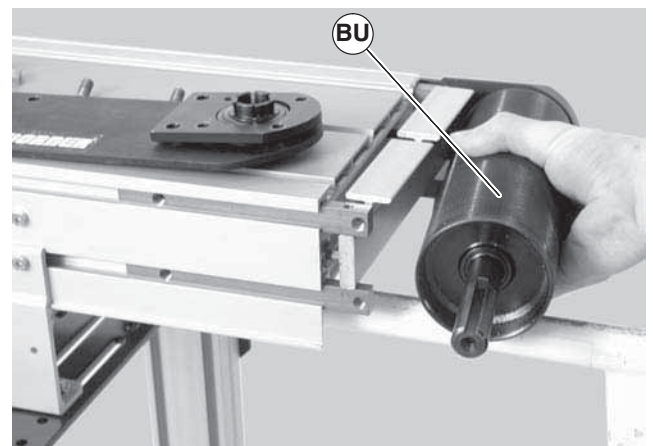

Figure 53
8. Slide the drive pulley (Figure 53, item BU) out of the headplate on the opposite side.